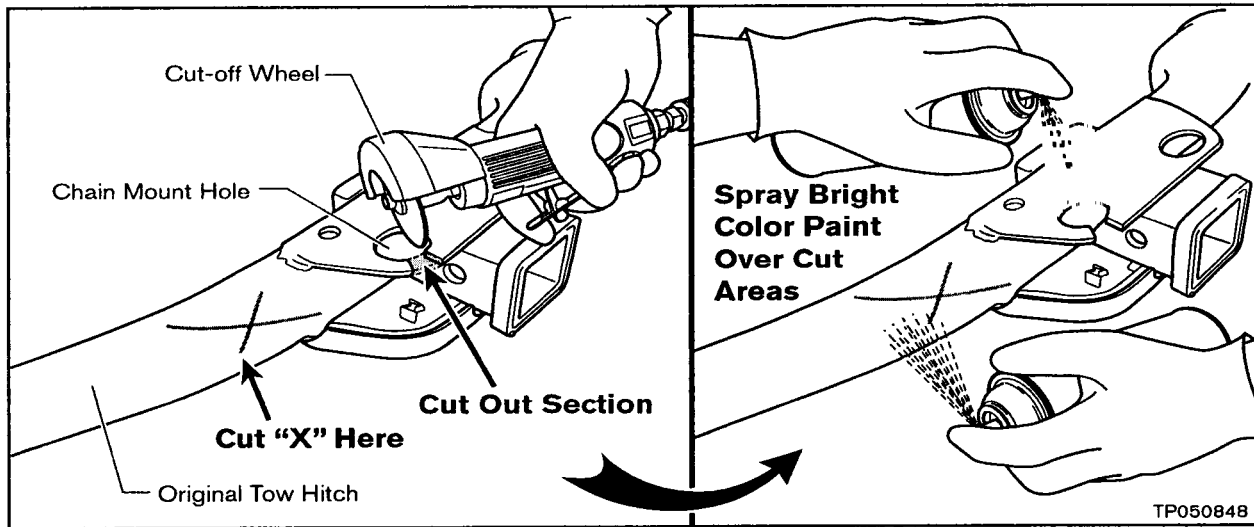

Figure A9
- a. Using a "cut off wheel" **and suitable hand and eye protection**, remove a section surrounding the Chain Mount Hole as shown in Figure A9. Then cut an "X" in the Tow Hitch surface (about 1/8" deep) as shown in Figure A9.
- b. Spray bright color paint (orange, red, or yellow) over the cut areas (see Figure A9).